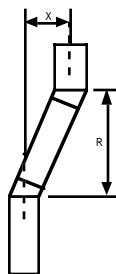

Figure 21
- The table below details the amount of offset ("X") and rise ("R") gained from various chimney lengths when used with 30° elbows (see Figure 21). Make sure to add the amounts for both elbows. Two sections may be added together to form a combined length. For example, 12" and 18" Temco chimney sections give an offset of 17-5/8" (3-7/8" + 5-3/8" + 8-3/8" = 17-5/8"). The rise ("R") equals 38-1/8" (14-3/8" + 9-1/4" + 14-1/2" = 38-1/8").